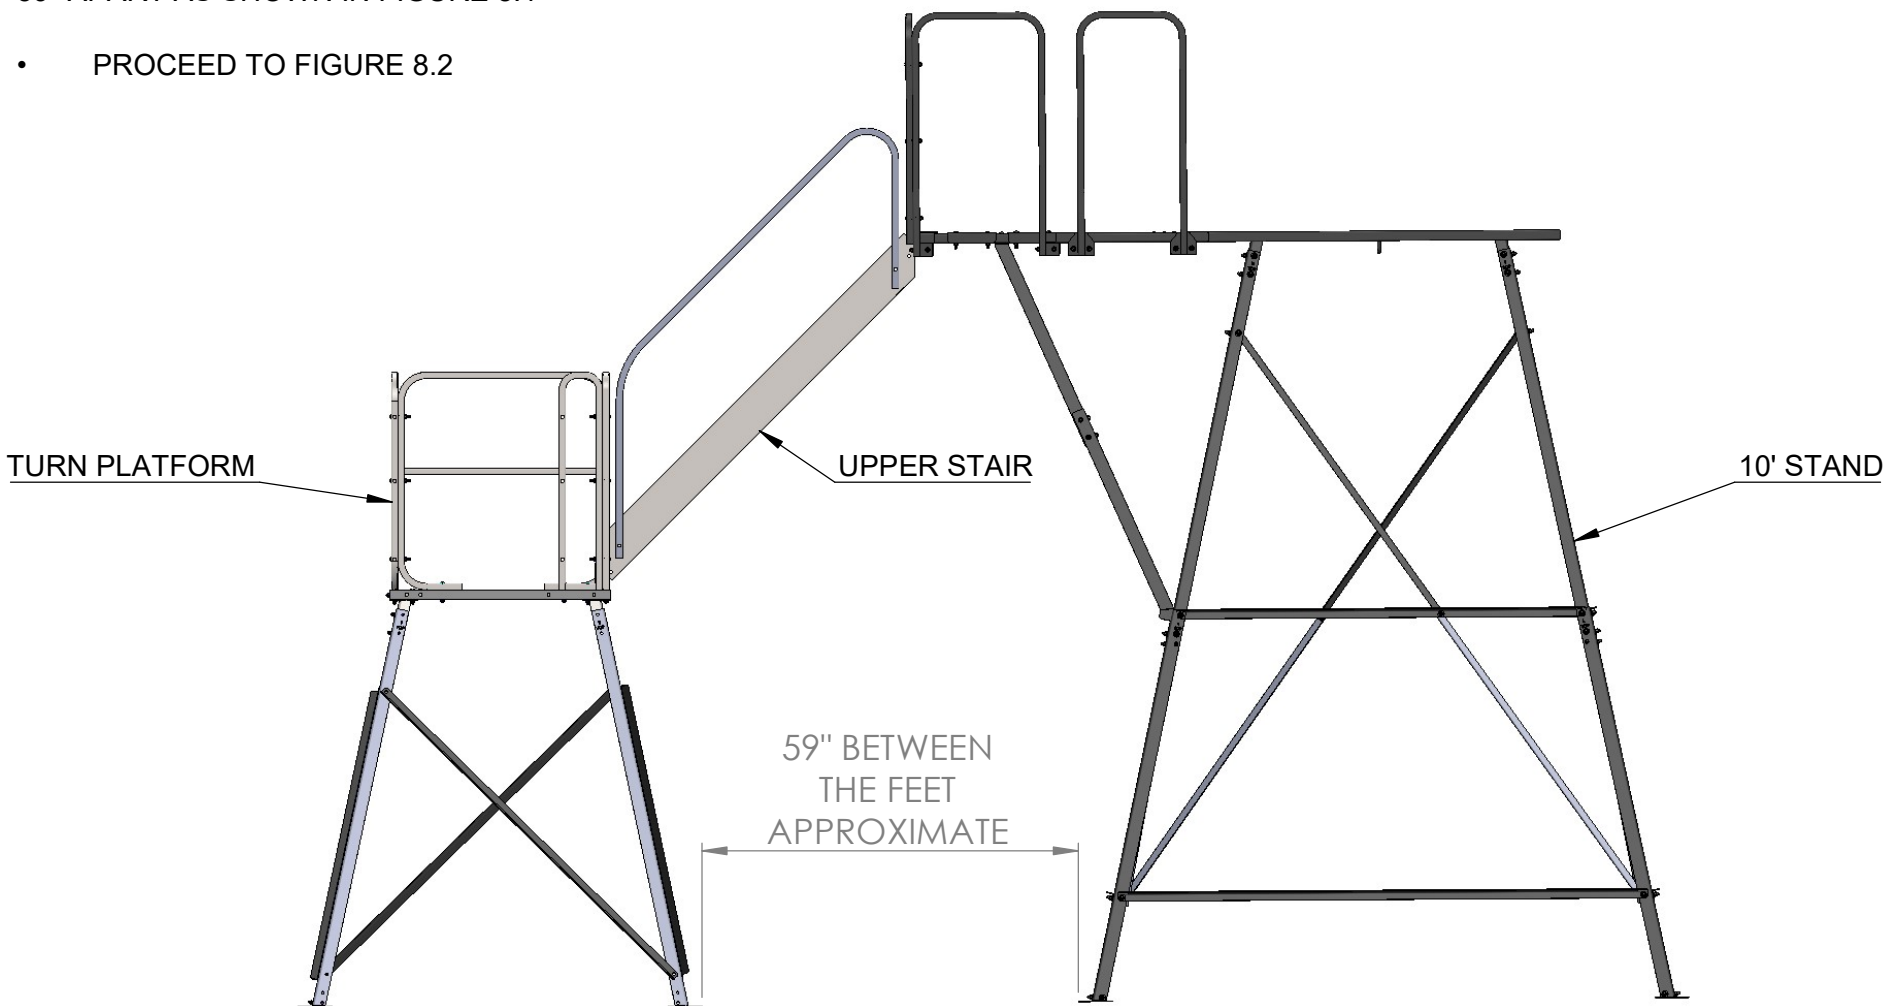

FIGURE 8.1
**NOTE:** ONCE CONNECTED THEY SHOULD END UP APPROXIMATELY 59" APART AS SHOWN IN FIGURE 8.1